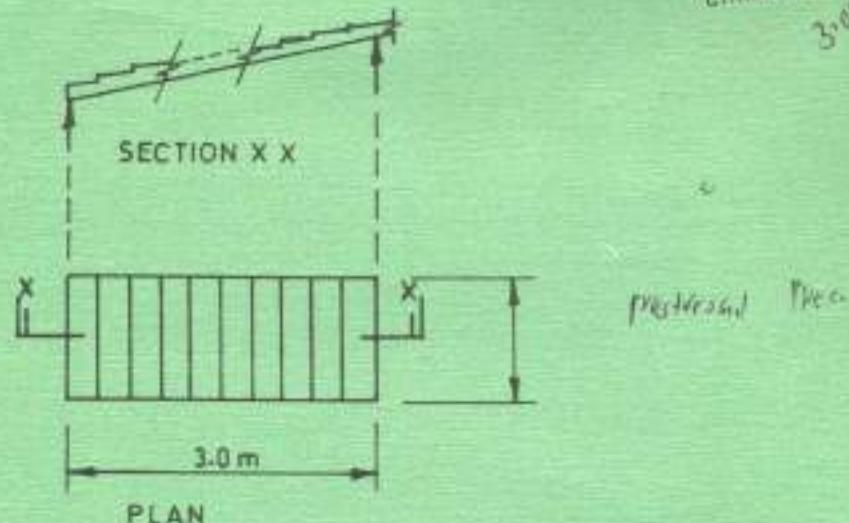

Fig. 4
- (b) Figure 4 shows the plan and section of a reinforced concrete stair slab which spans longitudinally along simple supports.